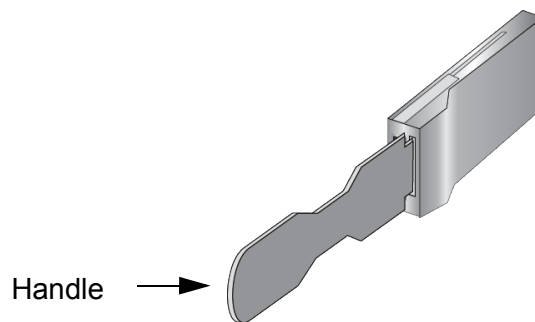

Figure 129. Handle on 100Gbps Transceivers for XEM2-1CQ Line Cards
- ❑ 100Gbps transceivers for XEM2-1CQ Line Cards have handles. Use the handles when installing or removing transceivers. An example is shown in Figure 129.